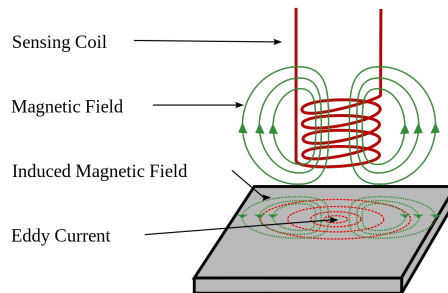

Figure 1: Diagram of a coil inducing an eddy current in a conductive plate
Eddy current sensors operate based on the principles of electromagnetic induction (see Fig. 1). When a coil of wire is energized with alternating current (AC), it generates an alternating magnetic field around it. If a conductive material is brought near this magnetic field, eddy currents are induced within the material. These eddy currents generate their own magnetic fields, which interact with the primary magnetic field produced by the coil, causing a change in the coil's impedance.